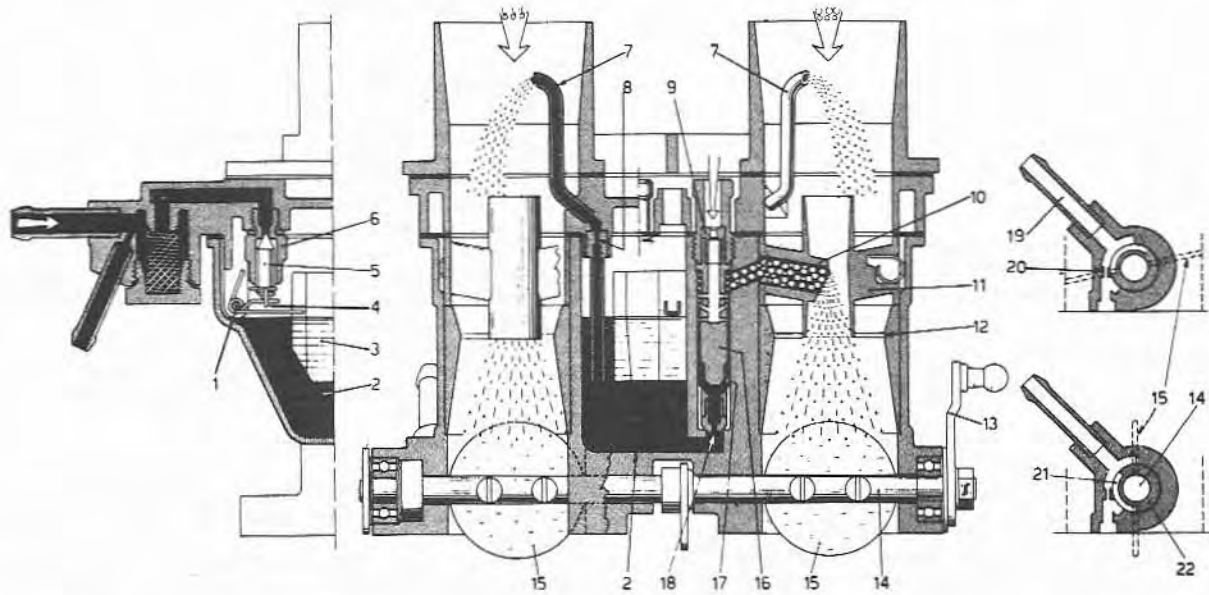

Fig. 12.3 Normal phase (Sec 3)
Refer to Fig. 12.3 and note that under full throttle and high speed cruise conditions, fuel is drawn from the float chamber (2) through the main jets (18) to the emulsion tube wells (17) and then past the holes in the emulsion tubes (16). The fuel becomes emulsified with air drawn through the air corrector jets (9) and is then drawn through the nozzle (10), auxiliary venturis
(11) and chokes (12) into the engine.